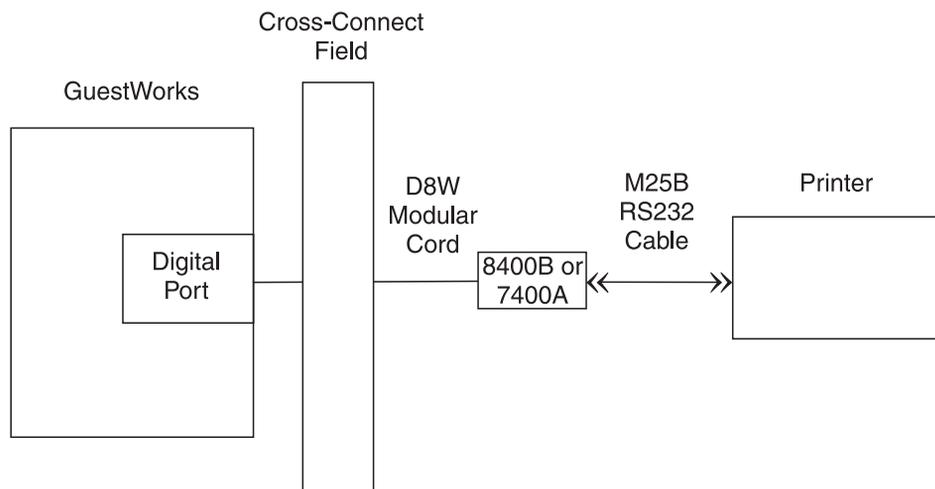

Figure 14. Printer Connections on the Switch
Figure 14 shows how to connect either a journal/schedule printer, a PMS log printer, or a system printer to the switch.
5. Reconnect the unit as shown in Figure 14.